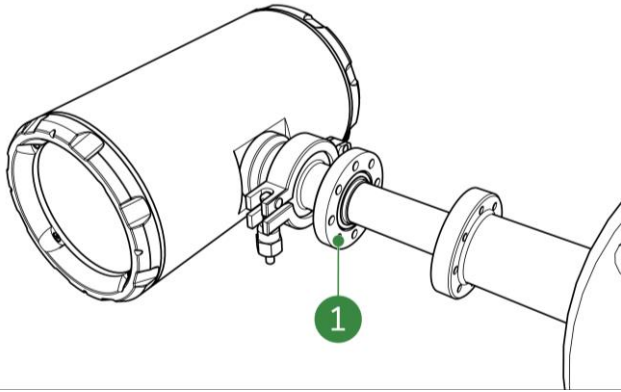

Figure 5-12: Aligning screw holes
6. Gently slide the SDM ECO as straight as possible into the pipe integration system and align the screw holes of both flanges (Figure 5-12, pos. 1). Choose the position in such a way that cable glands point downwards.